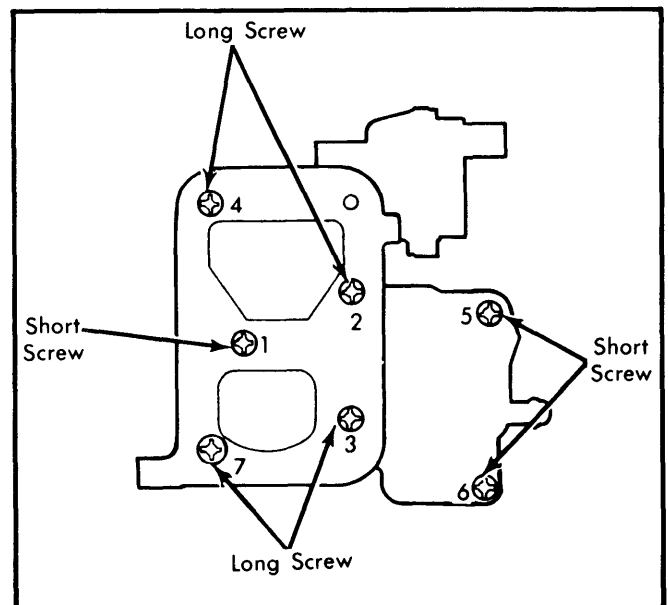

Fig. 11 Air Horn Screw Location and Tightening Sequence
- 7) Install air horn screws, noting location and type of screw for correct installation. Tighten all screws evenly, securely and in order shown in Fig. 11.